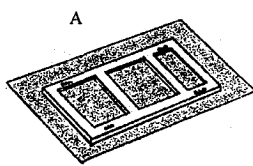

Figure 2
2. Put the face frame (A) face down on a flat soft working surface (Figure 2).